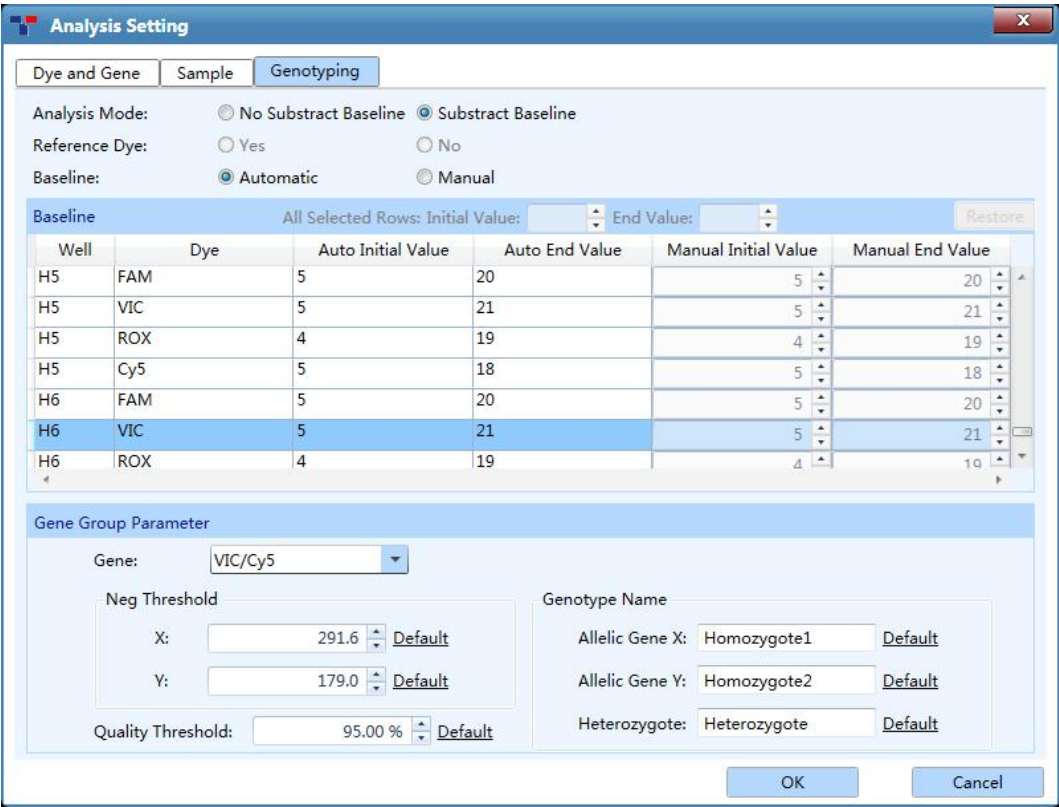

Figure D-17. Genotyping Analysis Setting interface - Genotyping tab
- *Genotyping* tab: users can set *Analysis Mode*, *Reference Dye*, *Baseline* and *Gene Group Parameter* in *Genotyping* tab, as shown in figure D-17.